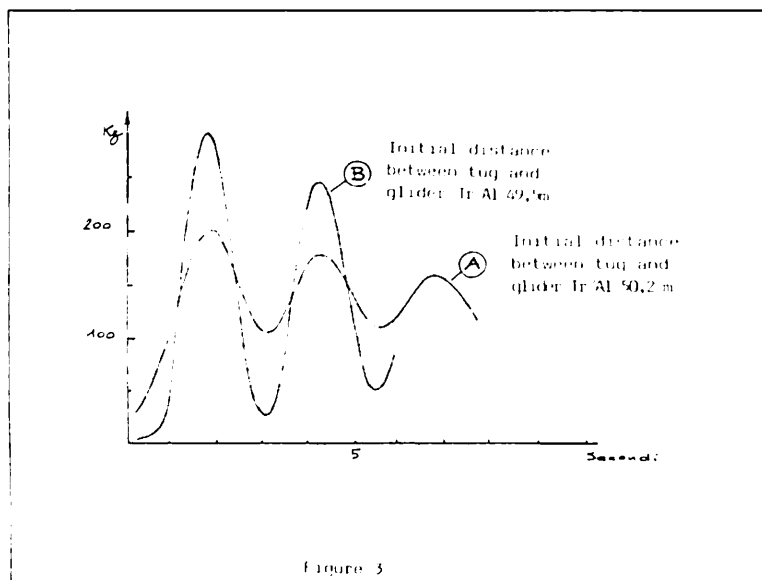

Figure 3
- initial tension of the rope before the acceleration phase. Figure 3 indicates the behaviour of tension in the simulation of a correctly performed takeoff (A) and in the case of a takeoff in which the rope became slack initially (B). A significant increase in the maximum value can be noted.